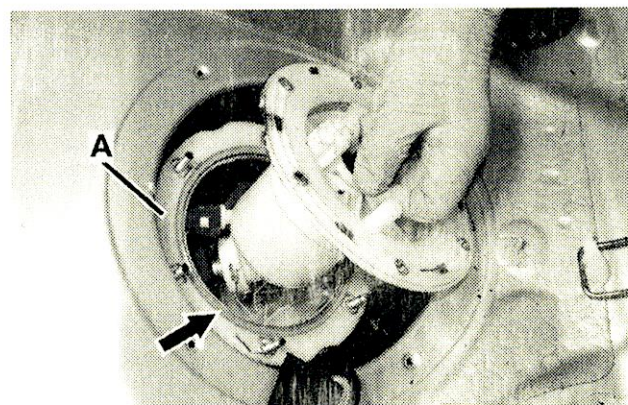

Figure 7
8. Remove fuel filter gasket (arrow, Figure 7) and spacer ring (A)